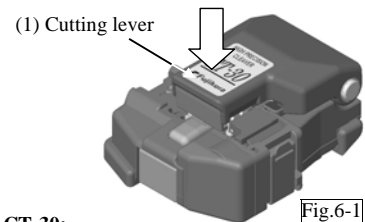
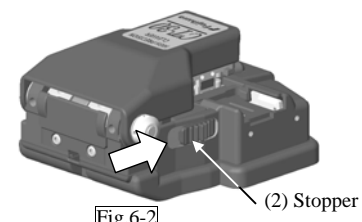

Fig.6-1
Fig.6-2
1. To unlock the cutting lever (1), press it gently (Fig.6-1). And, slide the stopper (2) (Fig.6-2).